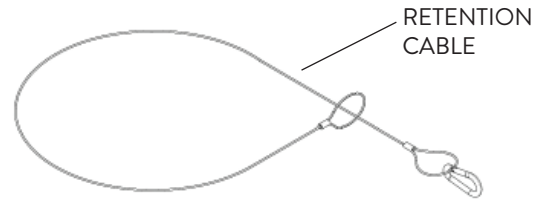

FIG. 6
- 1 The FHZR Safety Retention Cable is necessary for the FHZR 100/150 Models (Fig. 6).